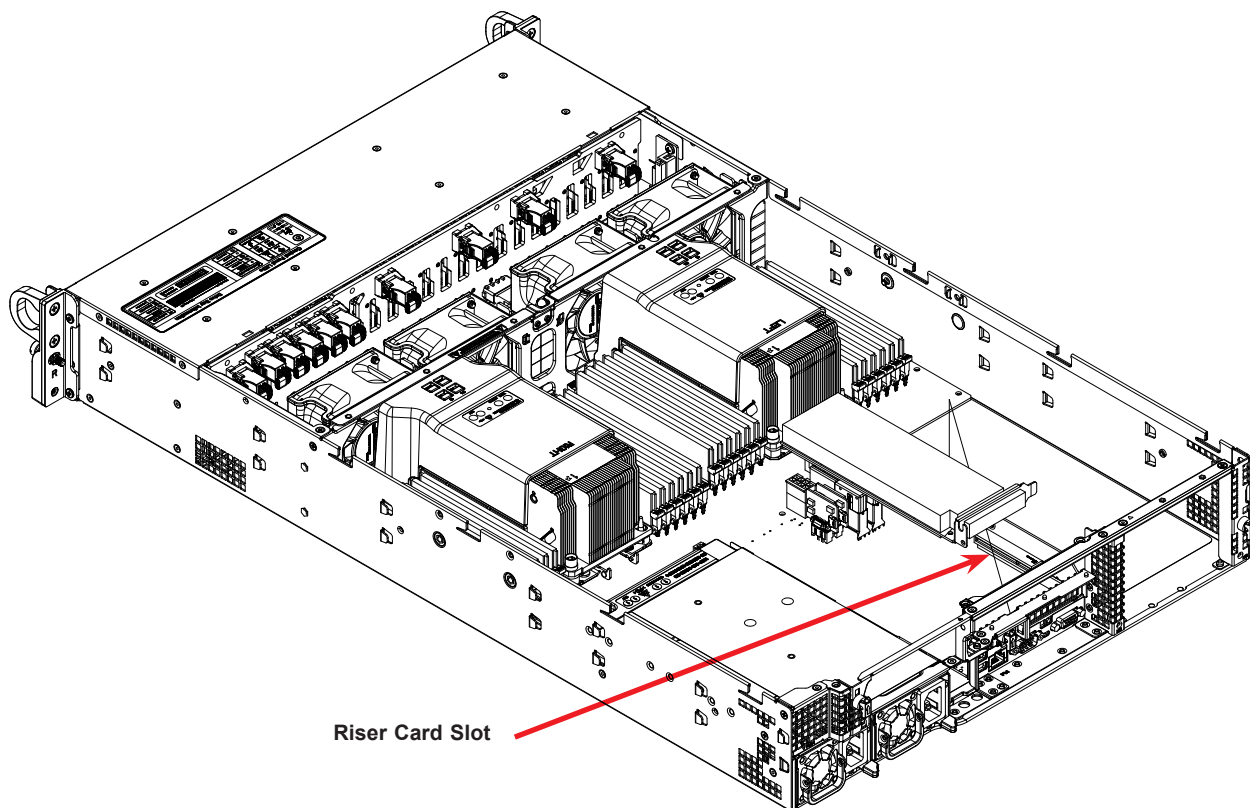

**Figure 3-16. Installing Expansion Cards**
1. Remove the left WIO riser card as described in Figure 3-16.